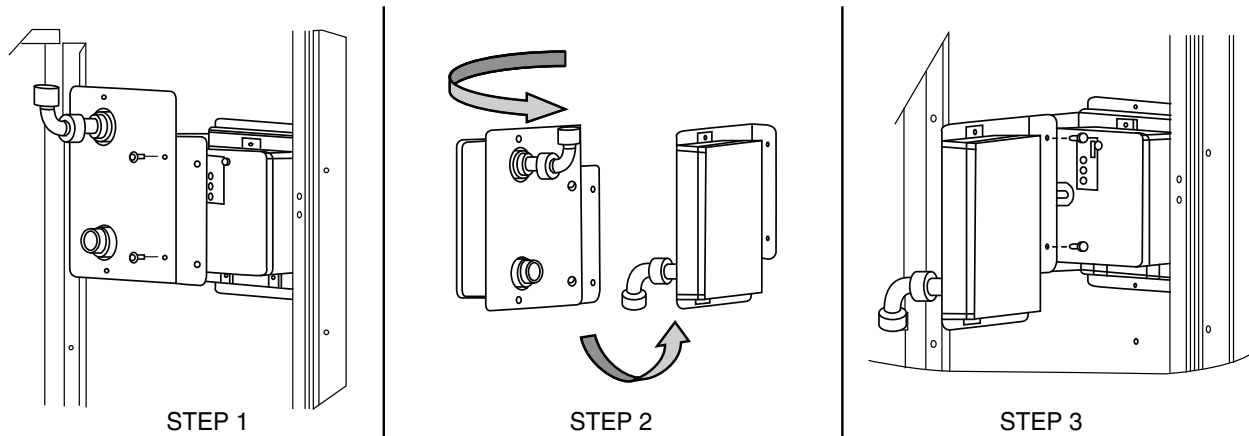

Fig. 56 — Completing Installation of Return Air Smoke Sensor
1. Unscrew the two screws holding the return air smoke detector assembly. See Fig. 56, Step 1. Save the screws.
2. Turn the assembly 90 degrees and then rotate end to end. Make sure that the elbow fitting is pointing down. See Fig. 56, Step 2.
3. Screw the sensor and detector plate into its operating position using screws from Step 1. See Fig. 56, Step 3.